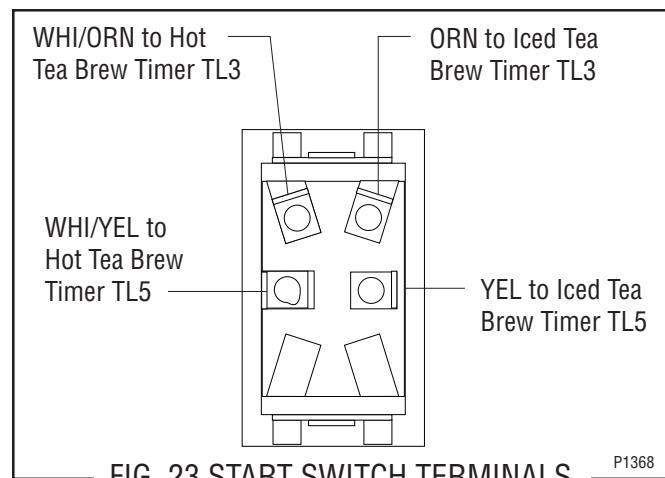

FIG. 23 START SWITCH TERMINALS
4. Refer to Fig. 23 when reconnecting the wires.